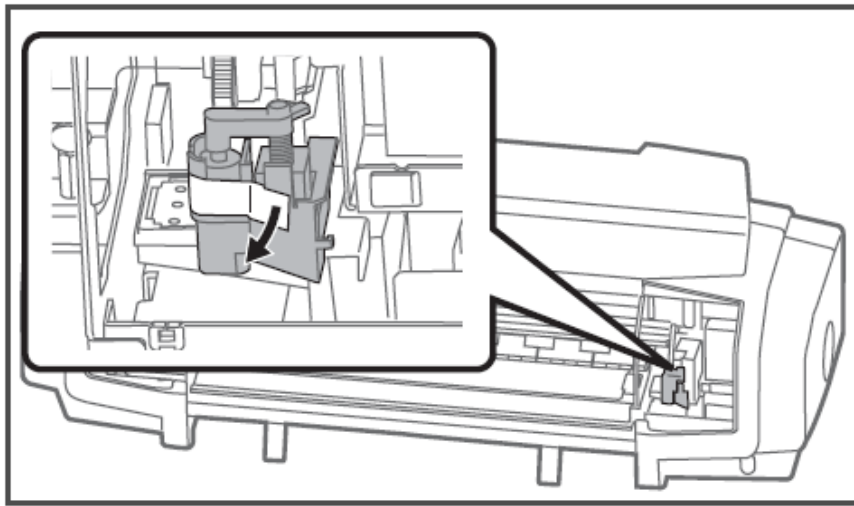

Figure 17
19. Peel the tape off of the cutter. See Figure 17.